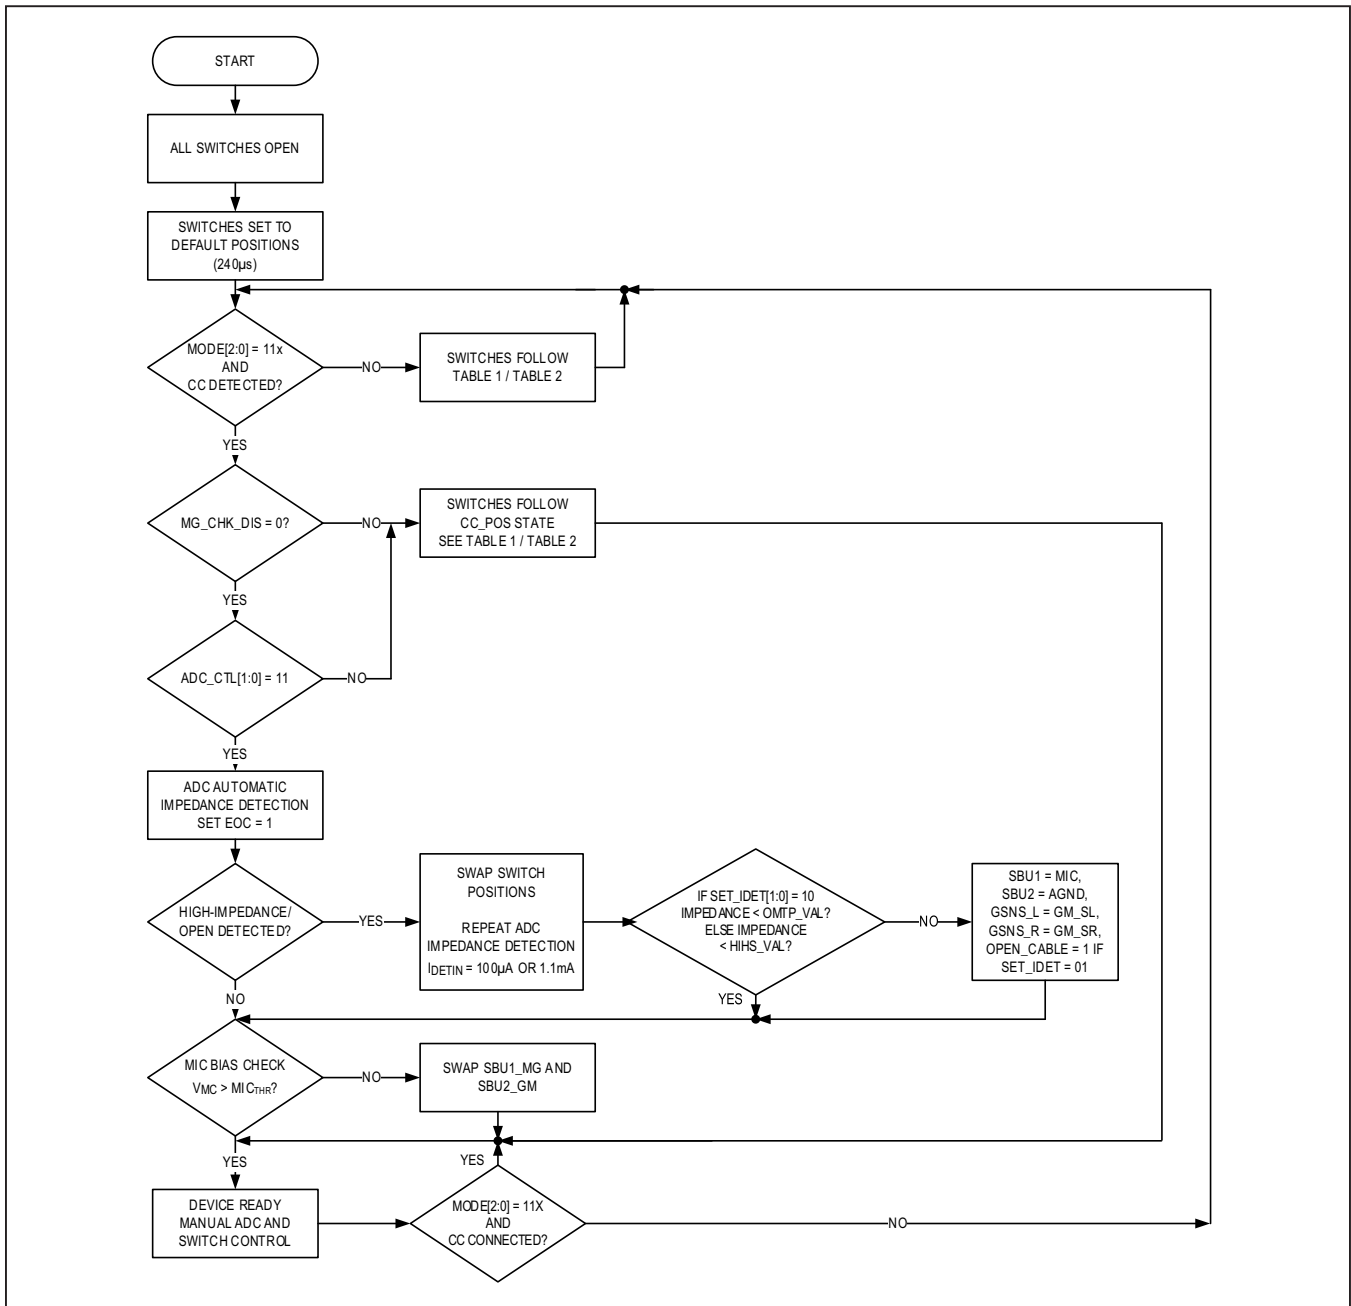

Figure 1. Startup State Machine (FSM)
* Controlled by the state machine. Refer to the state diagram of Figure 1.
*(1) When MG_CHK_DIS = 1 OR ADC_CTL ≠ 11, configuration valid when CC_POS = 0
*(2) When MG_CHK_DIS = 1 OR ADC_CTL ≠ 11, configuration valid when CC_POS = 1
*(1) CC_POS = 0
*(2) CC_POS = 1
*(3) When MG_CHK_DIS = 1 OR ADC_CTL ≠ 11, configuration valid when CC_POS = 0
*(4) When MG_CHK_DIS = 1 OR ADC_CTL ≠ 11, configuration valid when CC_POS = 1
supply current. When a device is disabled, the ADC_VAL register (0x01) and bits 0x02[7:6] and 0x02[3:0] are reset to 0. These bits provide information regarding the audio accessory impedance and microphone orientation. When EN is set to 1, the device runs through the state machine diagrammed in Figure 1.
The MAX20328/MAX20328A/MAX20328B can perform an impedance detection to measure the impedance of a connected audio accessory or detect an open cable. This function uses a precision, 8-bit ADC to measure the voltage dropped across the left audio channel while the IDET current source is active. An impedance measurement triggers automatically when EN is set to 1 if ADC_CTL[1:0] = 11 and follows the state machine in Figure 1. Changing MODE[2:0] to 1xx while the device is enabled also trig-